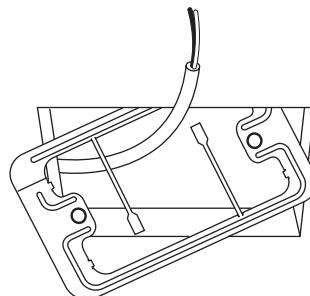

Fig. 1-103
- Run the wire through the mounting carrier and insert into the installation hole as shown in Fig. 1-103.